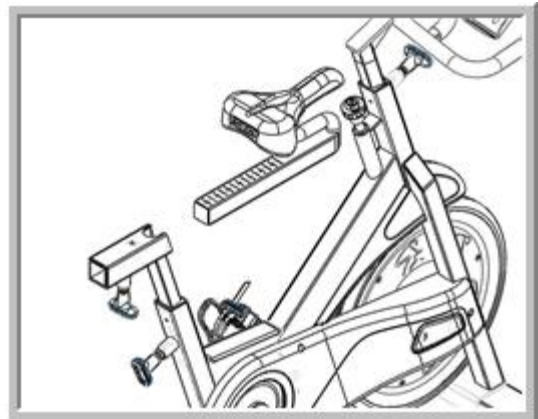

Fig. 9
9. Installing the Seat Slider (Fig. 9)